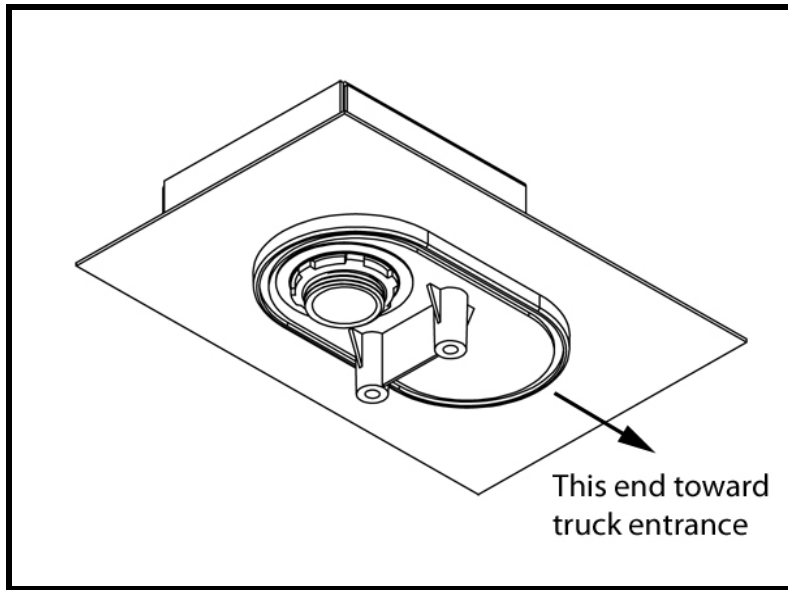

Figure 5 - Ultrasonic Sensor Base Installation
1. Install the Ultrasonic Sensor Base to the underside of the canopy where the conduit has been run for that lane and device. See **Figure 5**. Add washer and nut. Torque the nut to approximately 10 in-lbs.